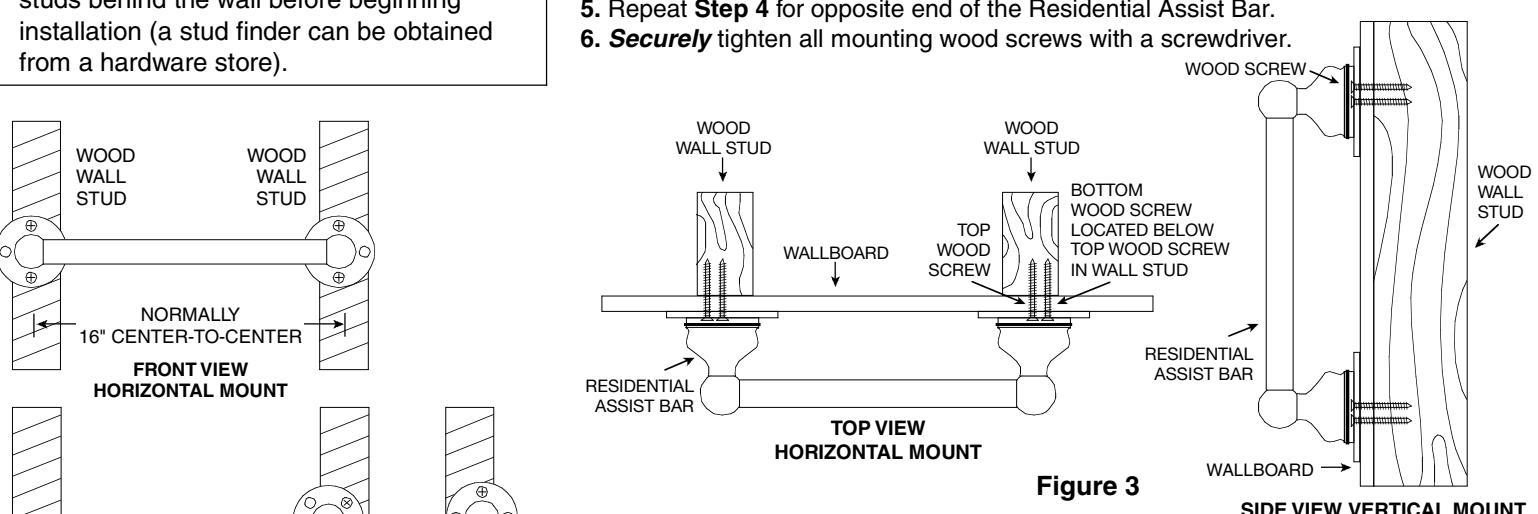

Figure 3
4. Insert the wood screws provided into one end of the Residential Assist Bar. Screw into wall and wall stud (**HAND TIGHTEN ONLY**) (see Figure 3).